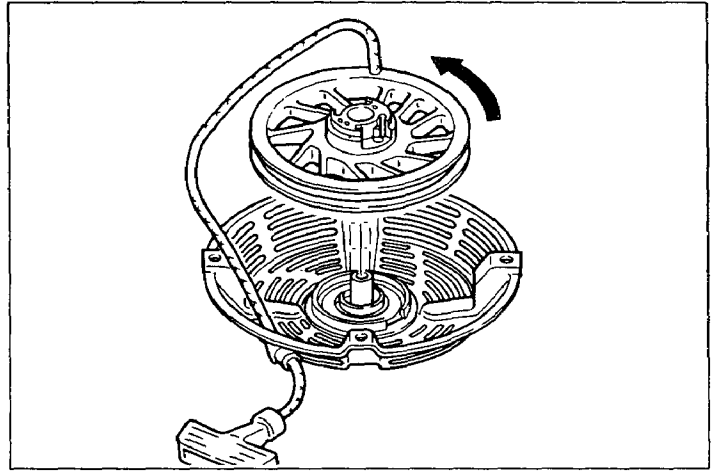

Fig. 74
- (3) Prior to installing reel in starter case, wind starter rope in reel for 2.5 turns in the arrowhead direction as shown in Fig. 74. Then let the rope out of reel from the notch on reel. Line up the hook with inner end of spring and install reel in starter case. Check that the inner end of spring is securely hooked onto the hook.